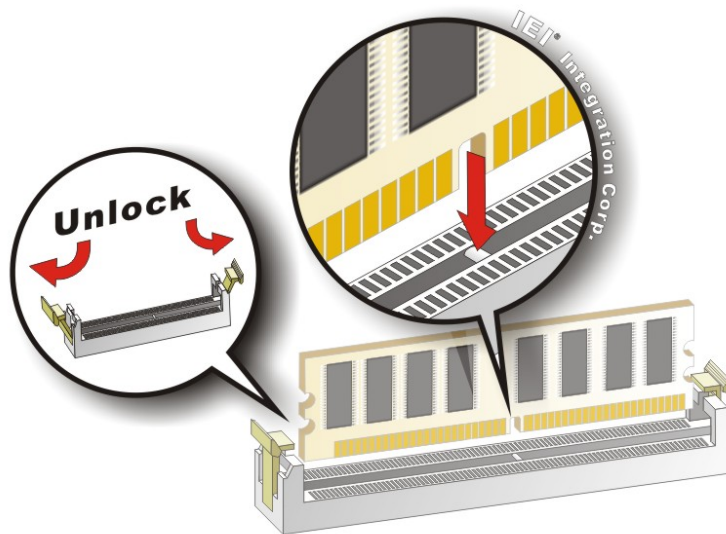

Figure 4-1: DIMM Installation
To install a DIMM, please follow the steps below and refer to **Figure 4-1**.
- Step 1:** **Open the DIMM socket handles.** Open the two handles outwards as far as they can. See **Figure 4-1**.
- Step 2:** **Align the DIMM with the socket.** Align the DIMM so the notch on the memory lines up with the notch on the memory socket. See **Figure 4-1**.
- Step 3:** **Insert the DIMM.** Once aligned, press down until the DIMM is properly seated. Clip the two handles into place. See **Figure 4-1**.